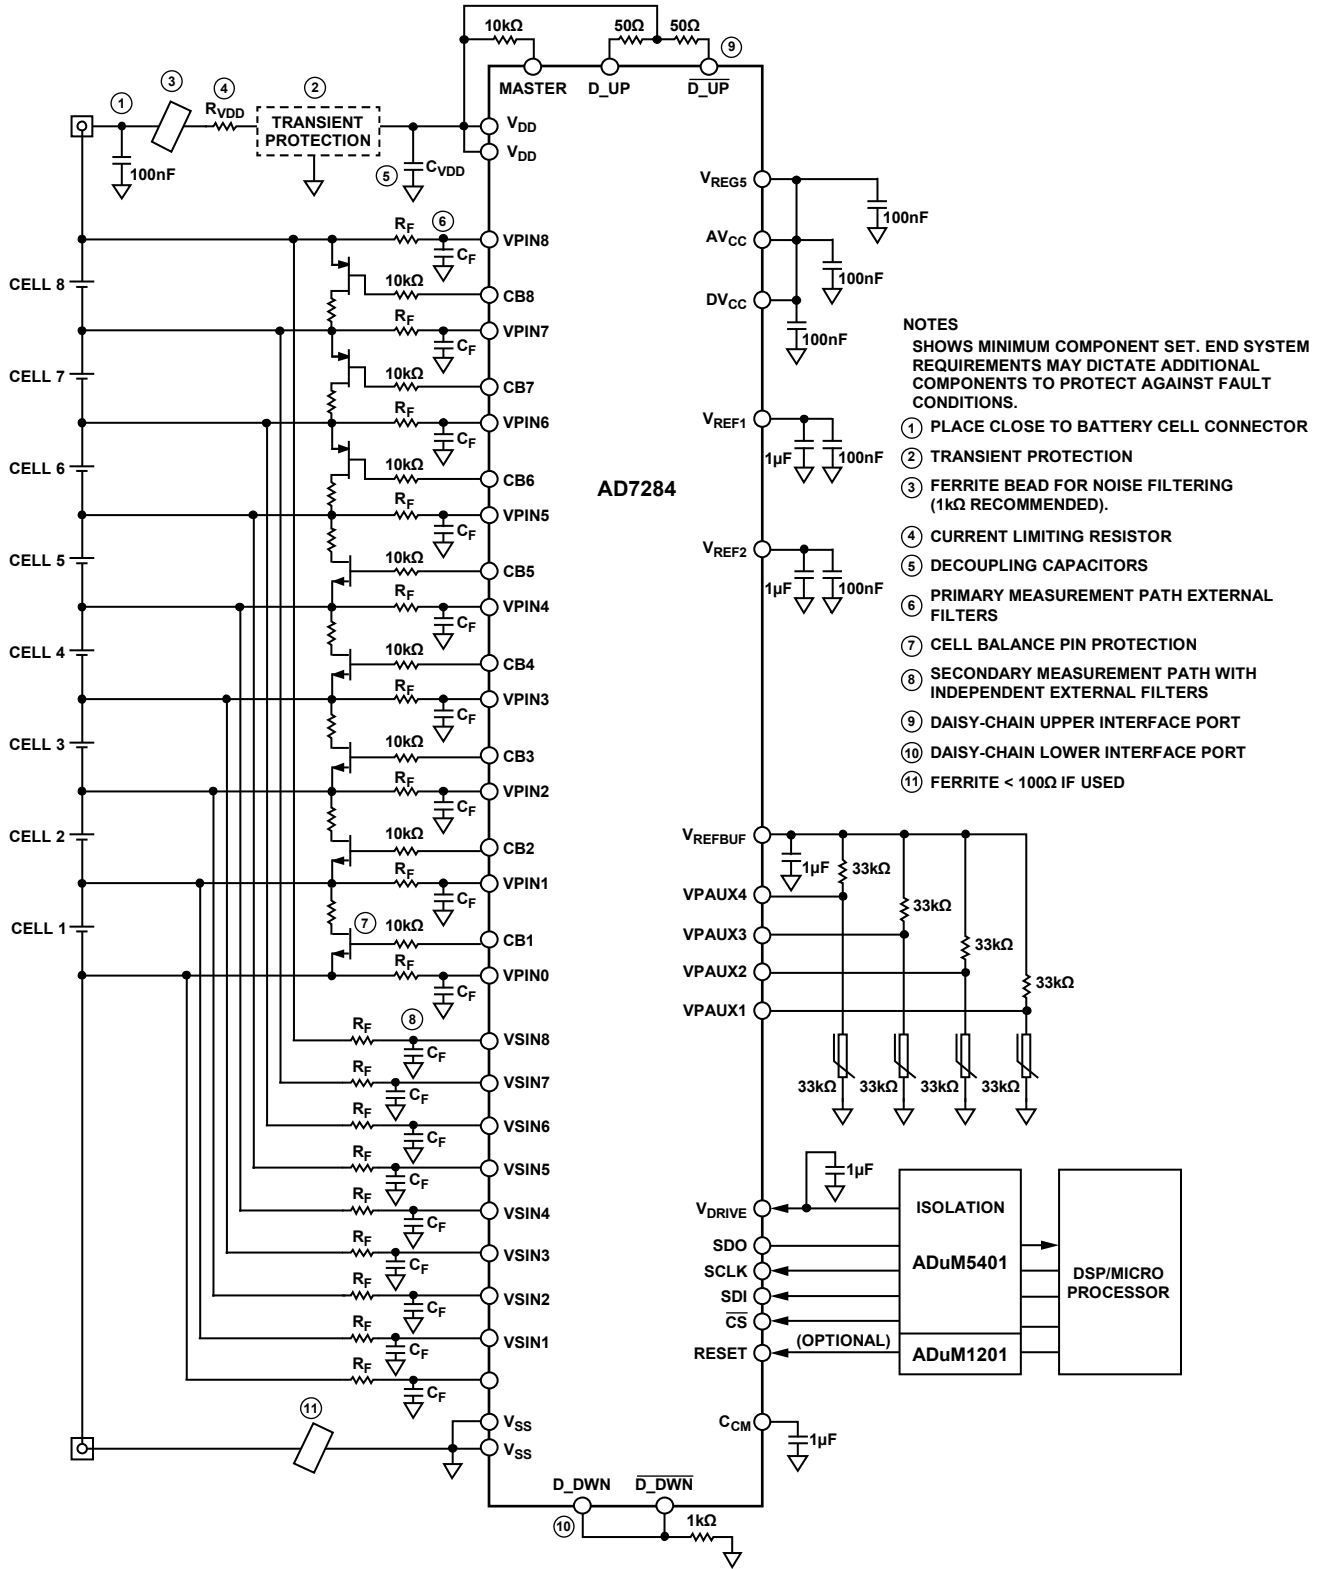
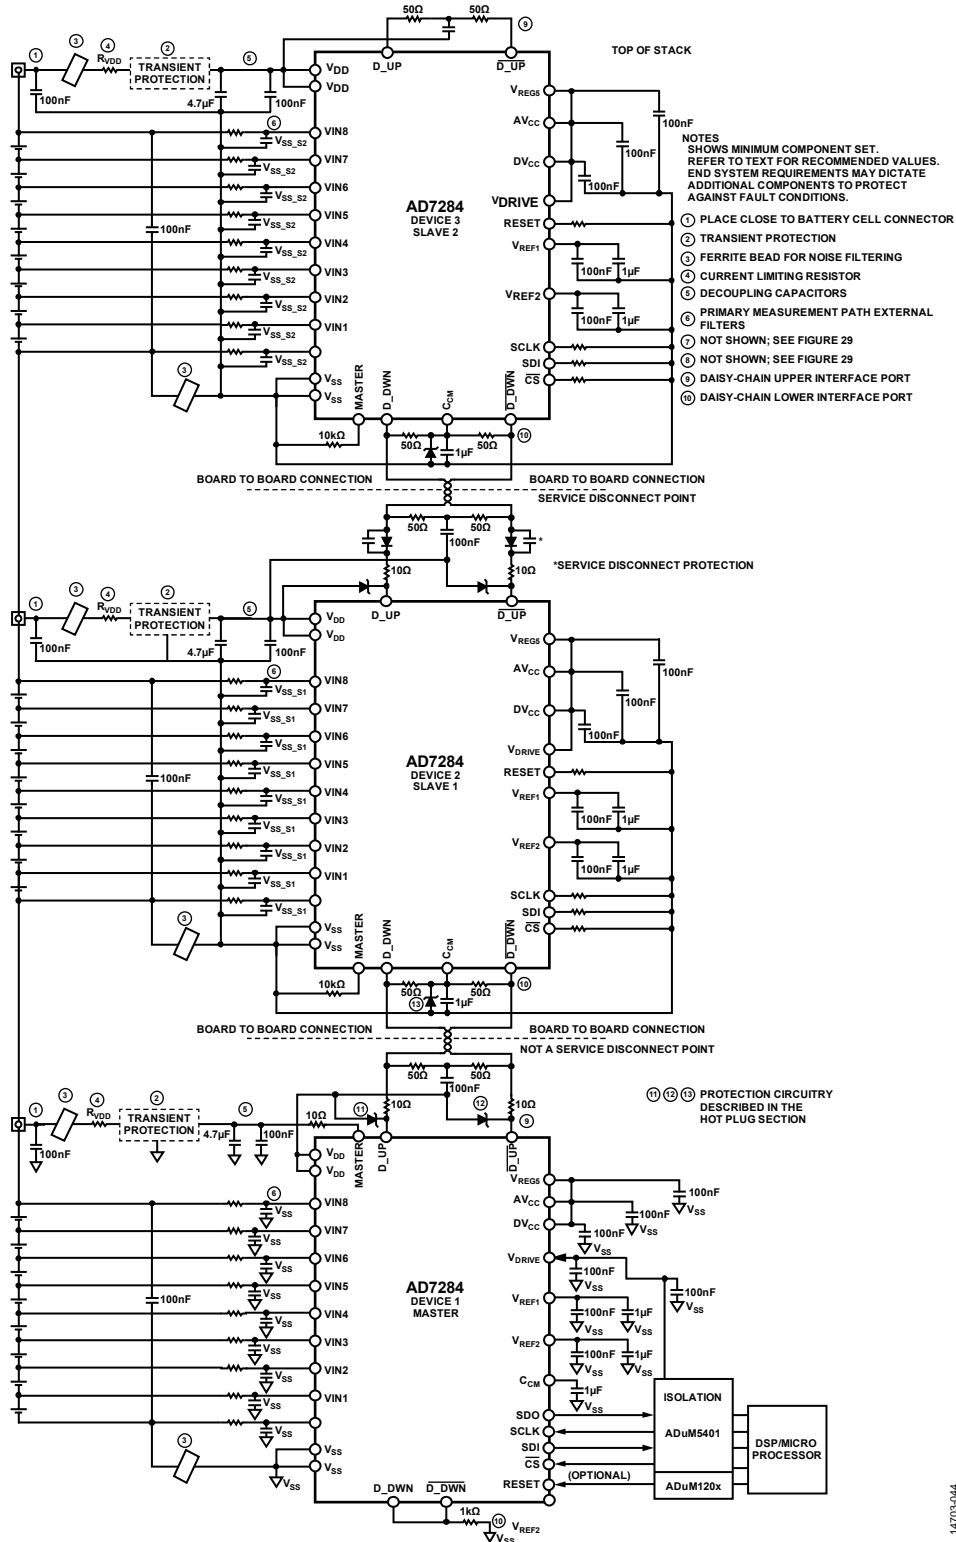

Figure 41. AD7284 Master Configuration Diagram for Eight Battery Cells
Figure 42. AD7284 Daisy-Chain Configuration with Three Devices, Where All Devices are on Separate Boards
Figure 41 shows an example of components for a master device, monitoring eight cells using two independent filters (on the primary and secondary path), and monitoring temperature on four thermistors.
The following notes refer to the notes detailed in Figure 41 and Figure 42:
3. Ferrite bead to filter supply noise. Typically, 1 k Ω ferrite (100 MHz) is recommend in the V_{DD} path. If a ferrite is required in the V_{SS} line, it is recommended to use a value <100 Ω (100 MHz). This note applies to the master or slave configurations. See Note 11 in Figure 41 and see Note 3 in Figure 42.
Note that the 1 μ F capacitor on V_{DRIVE} shown in Figure 41 is an ADuM5401 requirement. It is recommended to add 100 nF decoupling on the V_{DRIVE} pin.
Li-Ion battery applications require a significant number of individual cells to provide the required output voltage. Figure 42 shows the recommended configuration of a chain of AD7284 devices monitoring a larger battery stack. The daisy-chain interface of the AD7284 allows each AD7284 to communicate with the AD7284 immediately above and below it. The daisy-chain interface allows the AD7284 devices to be electrically connected to the battery management device without the need for individual isolation devices between each AD7284. One AD7284 acts as the master device, interfacing through the standard SPI interface to the host processor and to the chain of connected slave devices.
Figure 42 shows how a chain of three devices can be configured to operate on individual boards, if required; the same configuration can be used if all devices are mounted on the same board.